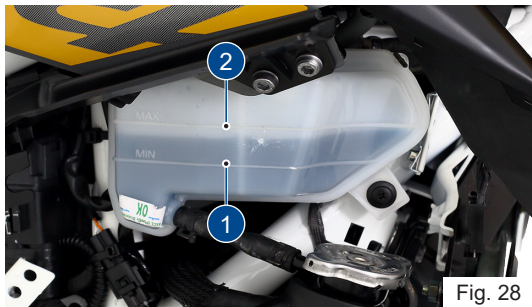

Fig. 28
- The coolant level should be between minimum and maximum level (1 & 2) on the tank (ref. Fig. 28).